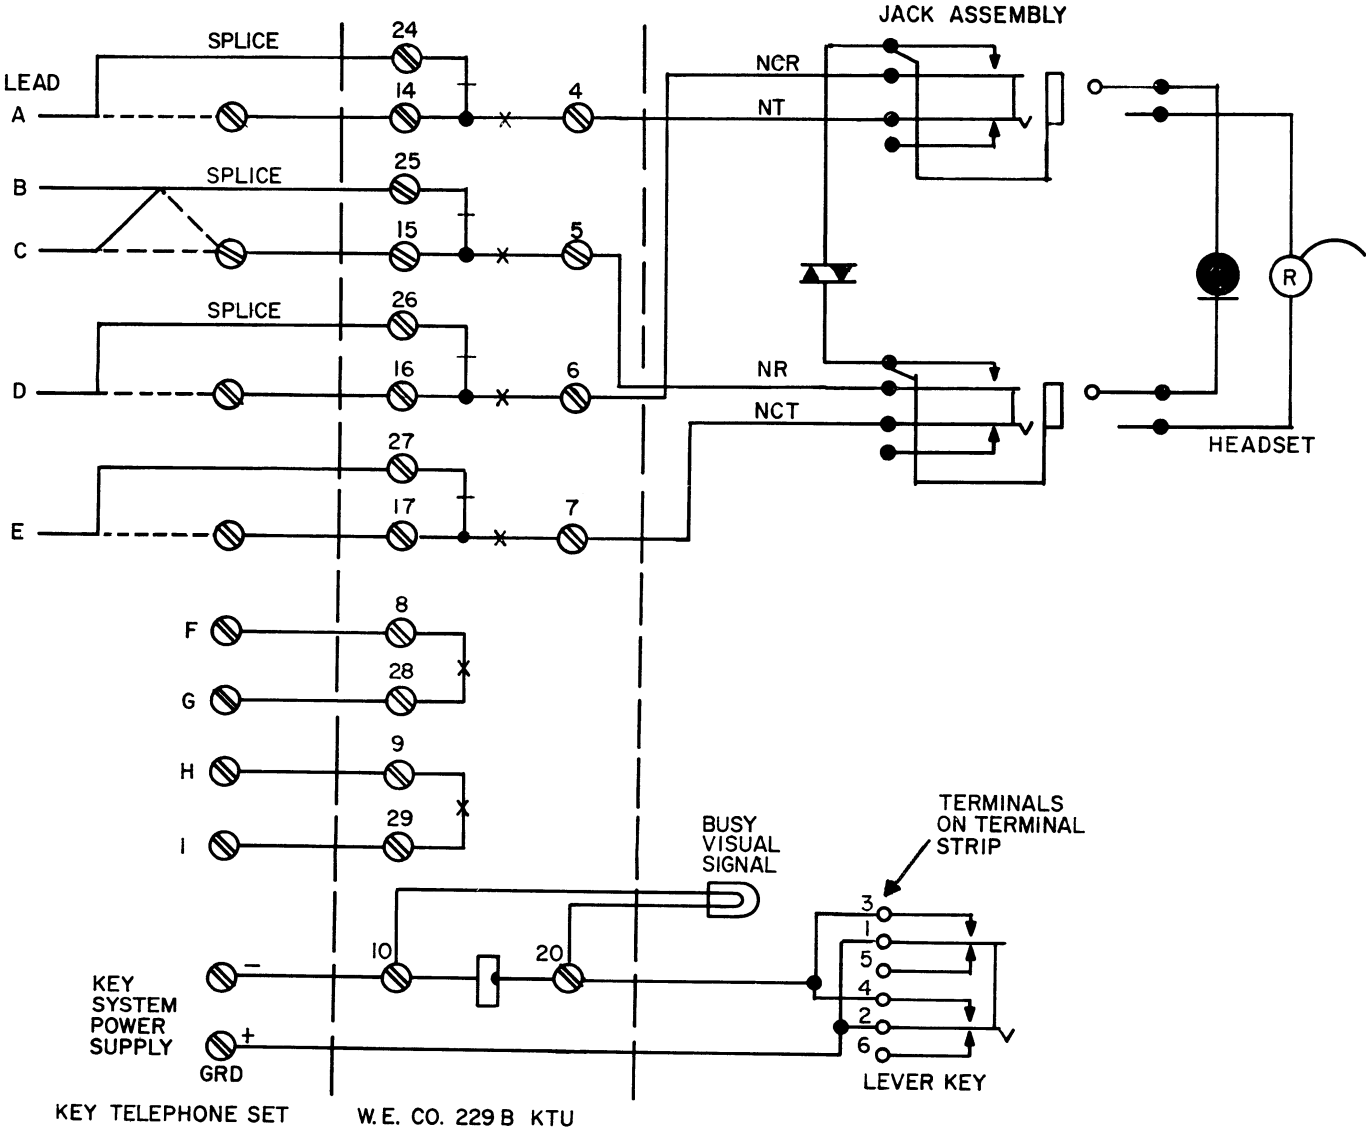
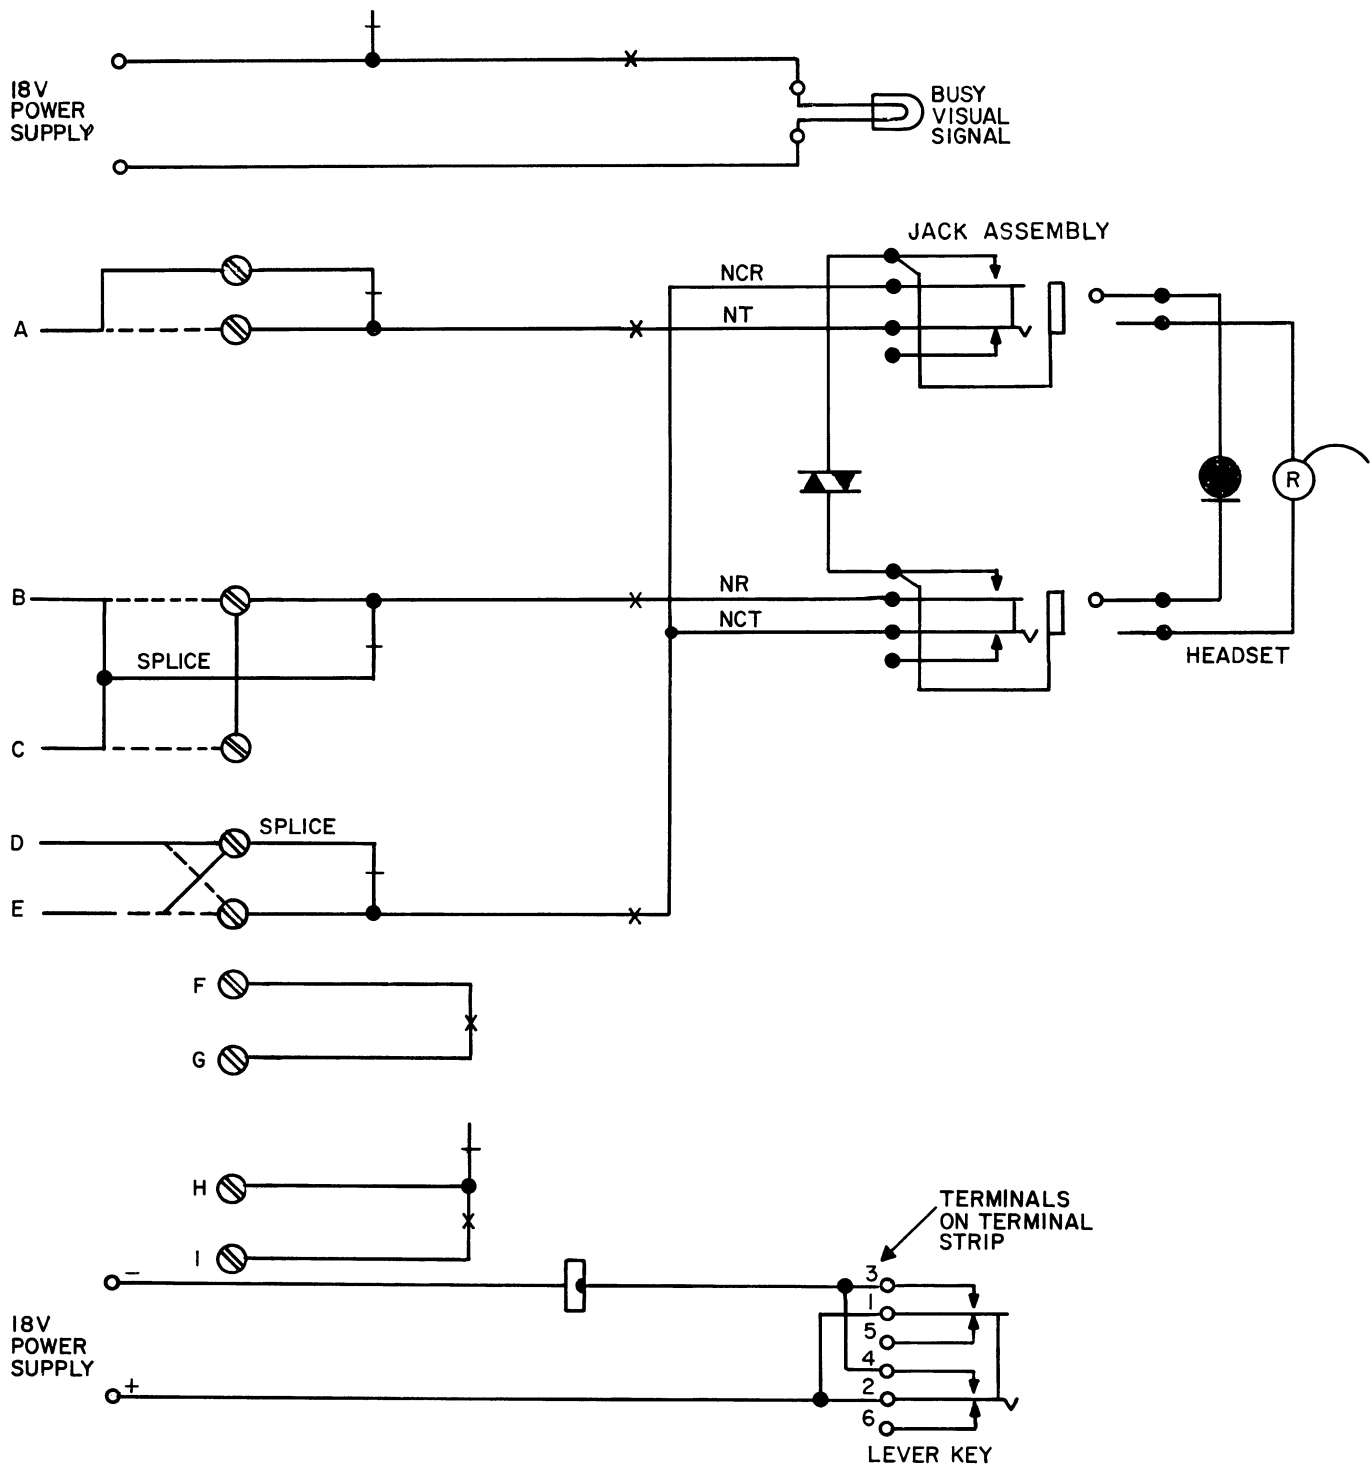

Figure 7. Relay Controlled Auxiliary Headset Connection Diagram for Touch Calling Telephones.
Figure 8. Relay Controlled Auxiliary Headset Connections to Conventional Dial Telephones.
2.04 At a station served by a 10A1 key system, the need for A-lead control in addition to other functions exceeds the capacity of the lever key. Therefore, the relay-controlled auxiliary headset (Figure 7 or 8) must be used in this application. Voltage for operating the relay is obtained from the key system power supply.
- (1) Install the associated key telephone set according to the appropriate section in this division of General System Practices.
- (2) Install the KTU in the apparatus cabinet.
- (3) Remove the cover from the lever key.
- (4) Using hardware appropriate for the type of mounting surface, mount the lever key in the desired location.
- (5) Mount the apparatus cabinet containing the KTU, in a location which is convenient to the telephone set, lever key, and jack box locations.
- (6) Remove the telephone set housing.
- (7) Using 16-conductor, 26 AWG., stranded cordage, make connections between the KTU and the key telephone set according to Figure 7 and Table 3. Use pressure-crimped spade lugs for terminating the cordage leads.
- (8) Using station wire, connect the lever key to the KTU as shown in Figure 7.
- (9) Assemble the jack box kit as follows:
- (b) Using station wire, attach leads to the jack terminals as shown in Figure 7.
- (c) Install the varistor on the jack terminals, connecting it to the jacks as shown in Figure 7.
- (10) Install the BUSY visual signal, equipped with the switchboard lamp,
in a conspicuous place near the associated key telephone set. Use station wire to connect to the KTU as shown in Figure 7.
2.12 The relay-controlled auxiliary headset with hookswitch function may be used with any conventional telephone set, by providing a separate 18-volt power supply for powering the KTU and BUSY visual signal. Connect this type of arrangement to Touch Calling telephones according to Figure 7 and Table 4. For connections to rotary dial telephone sets, refer to Figure 8 and Table 5. Except for mounting and connecting the power supply, install as instructed in Paragraph 2.09. See the appropriate section in the 490-100 Series of General System Practices for instructions for installing and connecting the power supply.